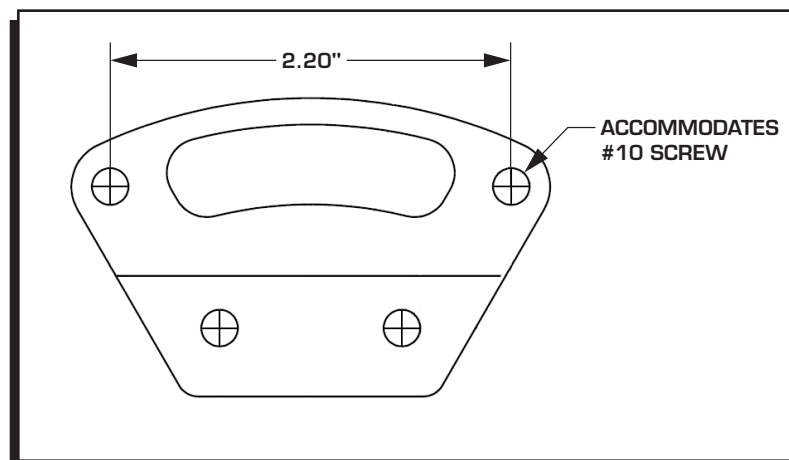

Figure 4 Regulator Mounting Bracket Template
Using the two (2) supplied 10-32 x 0.375 Button Head Cap Screws and a 1/8-inch hex key (Allen wrench), attach the regulator bracket to the regulator body. The regulator may then be mounted to the firewall, or other convenient surface. Regulator orientation is not critical, but be mindful of adjustment screw access and hose routing. Refer to Figure 4 for a mounting bracket template.